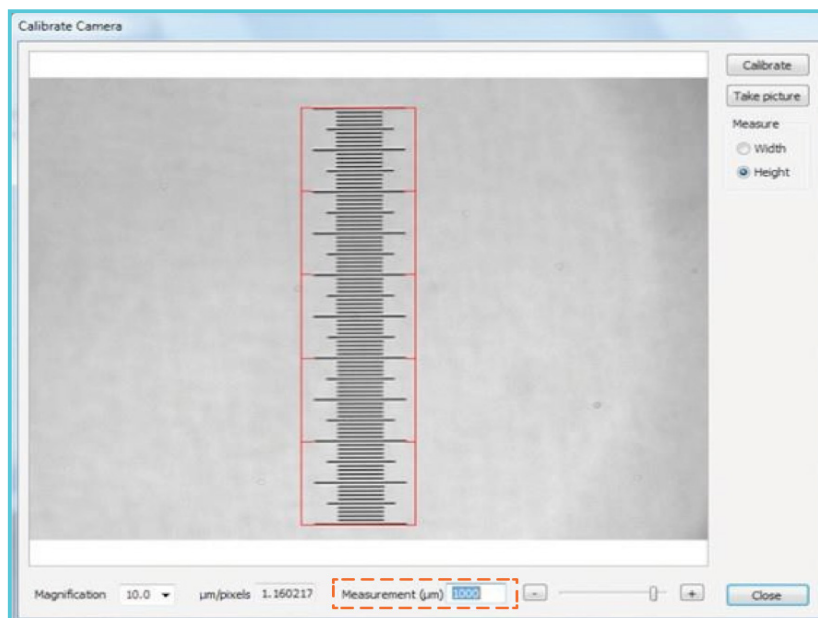

Figure 2.9 Measurement (μm) box
6. In the box Measurement (μm) (shown in figure 2.9) the camera will now show how many μm the red box covers. This value should in this case be $1000\mu\text{m}$. By resizing the red box, the calibration of the camera can be controlled by reading the number in Measurement (μm) when the red box is resized.